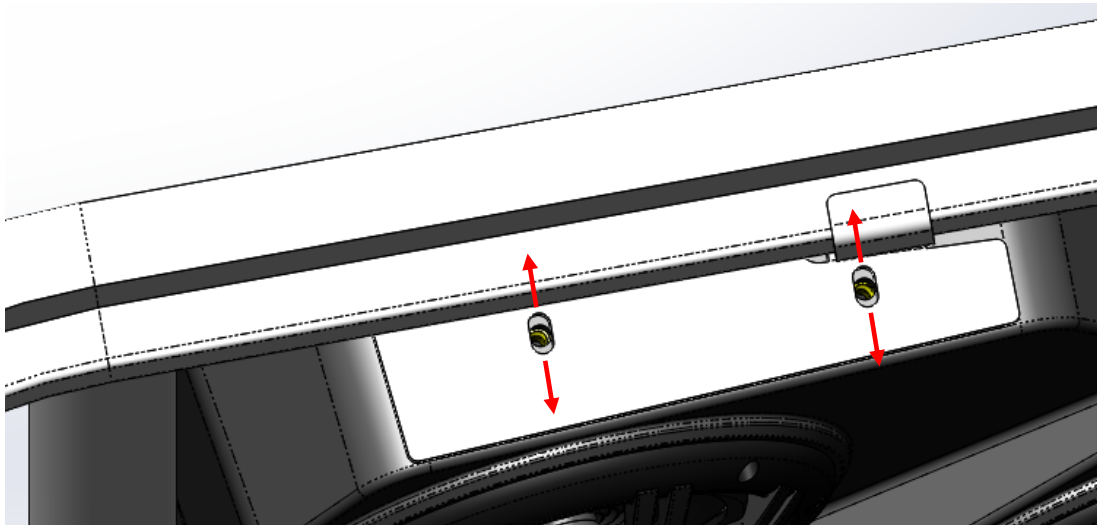
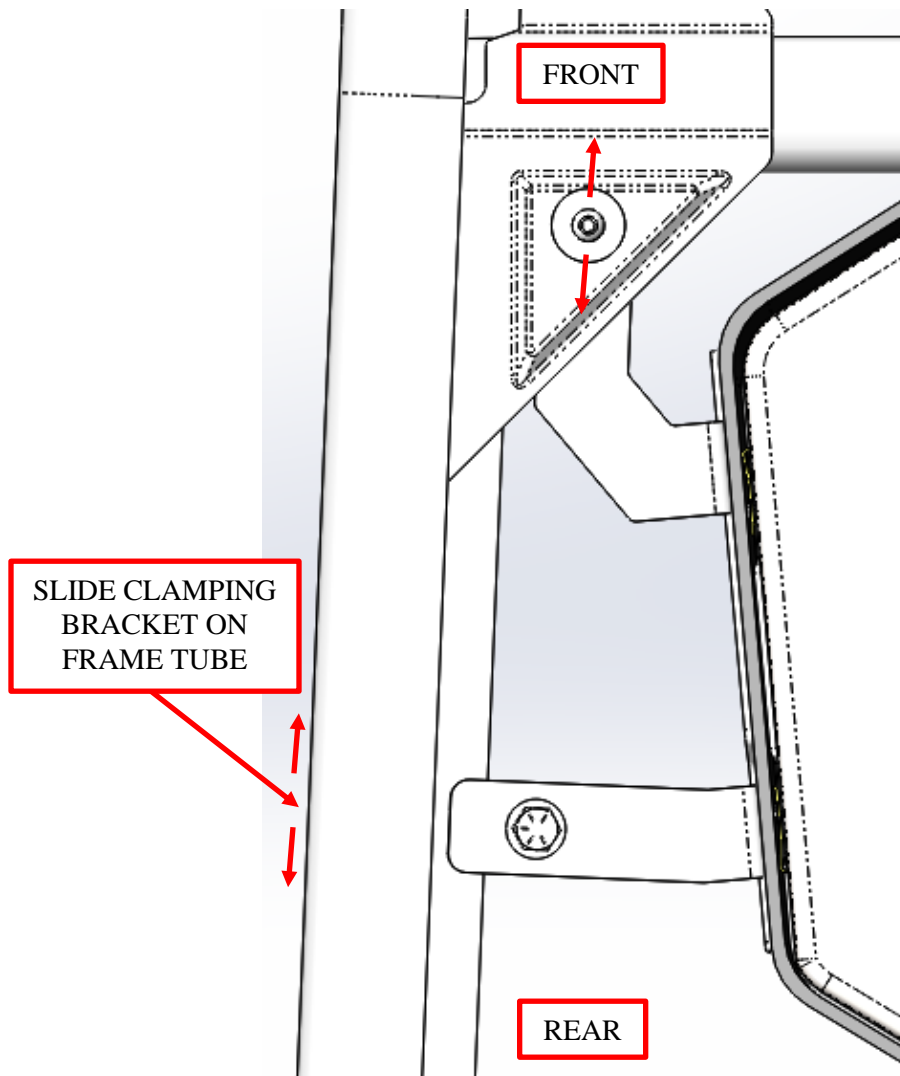
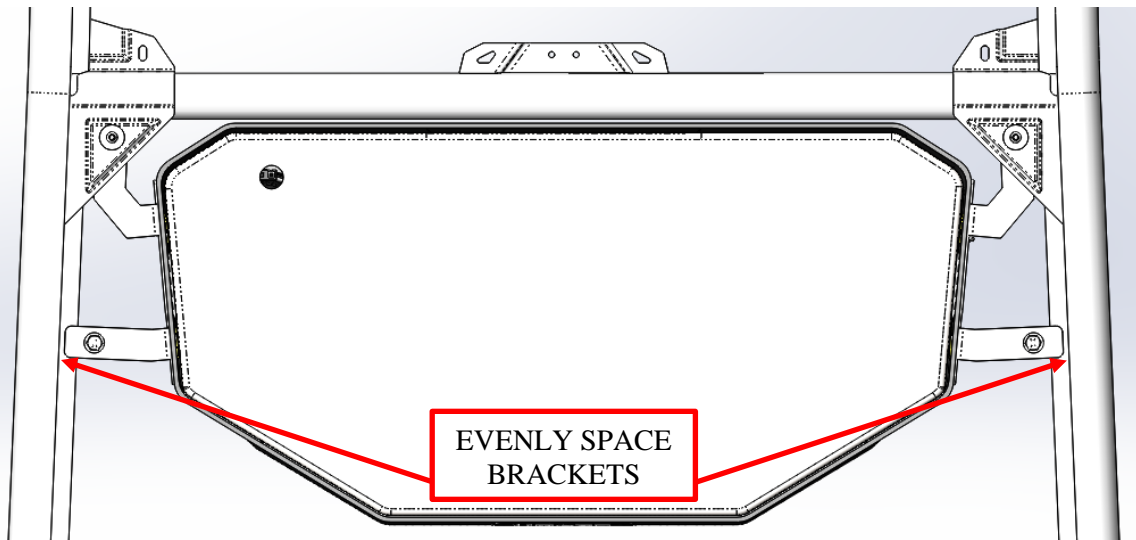

Figure 12: Adjustable up-down positioning of the Audio Mini.
Figure 13: Adjustable front-back positioning of the Audio Mini.
Figure 14: Evenly space the brackets from the frame.
9. Slots in the sides of the Audio Mini brackets allow up-down movement, while the slots in the front of the brackets allow front-back movement to achieve your desired position. Slide the clamping bracket on the frame tube with the bracket as you adjust front-to-back positioning. See Figure 12 and Figure 13. **Note: Be sure to evenly space the bracket tabs from the inner edges of the frame.** See Figure 14. Tighten the two front bracket bolts, both clamping bracket bolts, and the four mounting bracket bolts after achieving the desired viewing position.